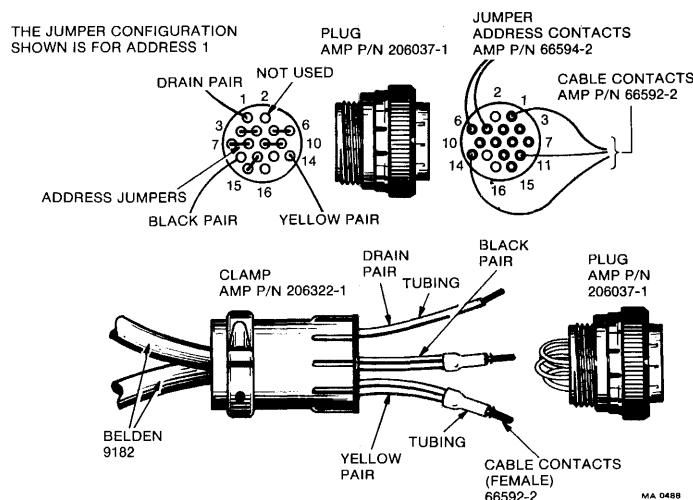

Figure 3-4 DECdataway Port Connector
3.2.4.3.2 Connection to One DECdataway Port (refer to Figure 3-4 and Table 3-6) – Perform the following steps when connecting the DECdataway cable to one port.
1. Refer to Table 3-6 and Figure 3-4 and assemble the required parts.
3. Insert the jumpers into the plug (AMP P/N 206037-1). Refer to Table 3-7 and Figure 3-4 for jumper locations.